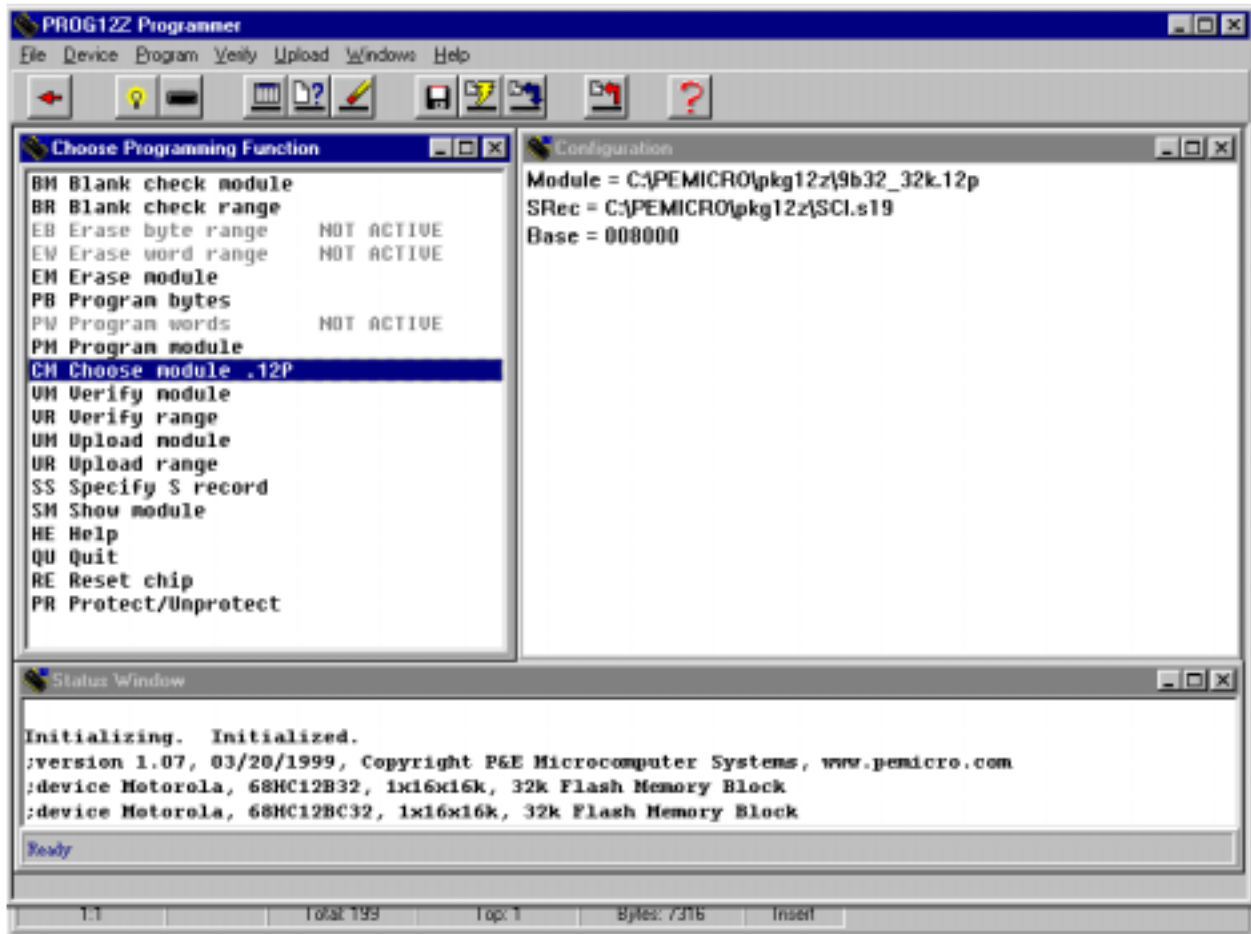

Figure 7. P&E’s Programmer Window
8. Launch the programmer. If the correction assistant window opens, select the correct parallel port being used. Defaults should work for the other options in this window. See Figure 7.